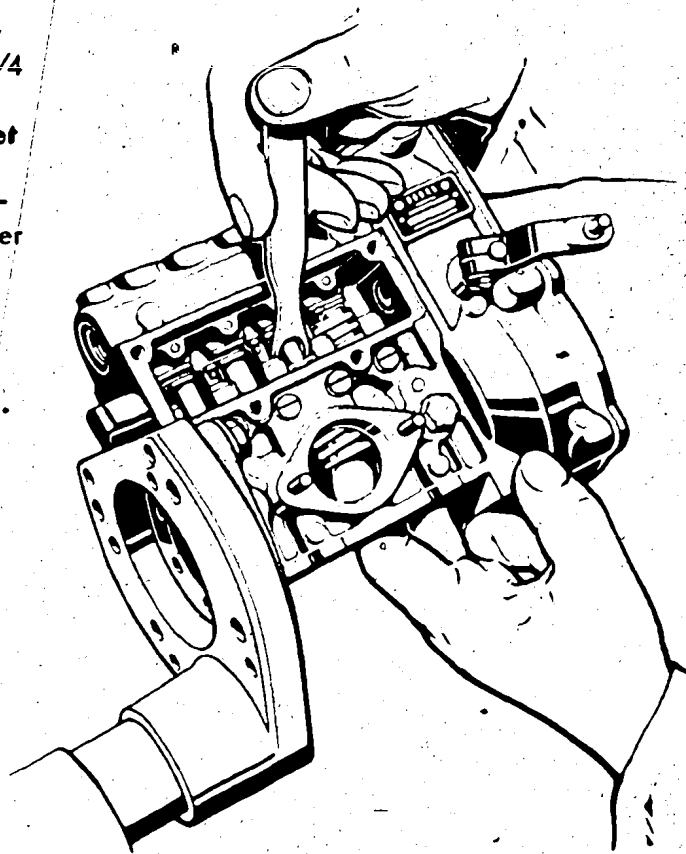

Fig. 5 Removing the upper spring seat by using mounting lever EFEP 307
6. Again tilt pump into horizontal position. Slacken tappet-locating screws (9) a few turns. By means of wooden stem EFEP 91/4 of tappet forceps EFEP 91, force tappet upwards and simultaneously remove tappet holder pin. Remove tappet by hand and place same into the appropriate compartment of the tray. Take care that the roller pin (6), roller (7) and bearing bush (8) do not get lost or become interchanged with those of other tappets. Pull out pump plunger (14) along with bottom spring support (10) by hand and set aside.
7. Remove plunger spring (11) and upper spring seat (12) by pushing downwards. To do this, press plunger spring from underneath against spring seat and press the latter against the spring by using mounting lever EFEP 307. Now spring and seat together are expelled through the tappet guide by pushing downwards gently and without force (Fig. 5). By doing this, tilting of the spring seat in the tappet guide and damage to latter is avoided.
8. Remove control sleeve (13) and carefully expel pump barrel (14) by pushing upwards.
9. If necessary, remove bearing end plate (46b) at pump side 2. To do this, remove the 4 securing bolts (47b) together with lock washers (48) and carefully force the cover outwards from the inside.